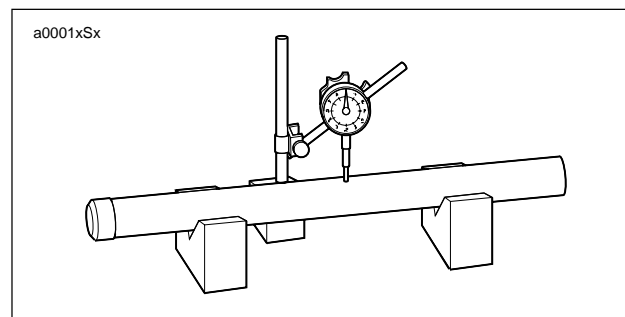

Figure 2-78. Slider Tube Runout
7. See Figure 2-78. Measure slider tube runout. Replace slider tube if runout exceeds the service wear limit of 0.008 in. (0.2 mm).